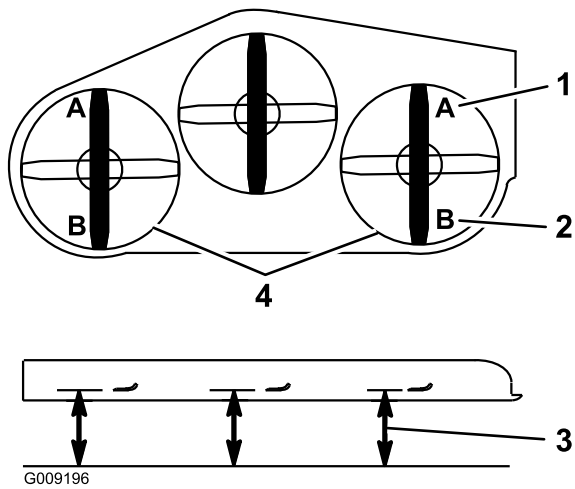

Figure 89
9. On both sides of the deck, measure from the level surface to the front tip of the blade (Position A) as shown in Figure 89.
- On both sides of the deck, measure from the level surface to the back tip of the blade (position B) as shown in Figure 89.